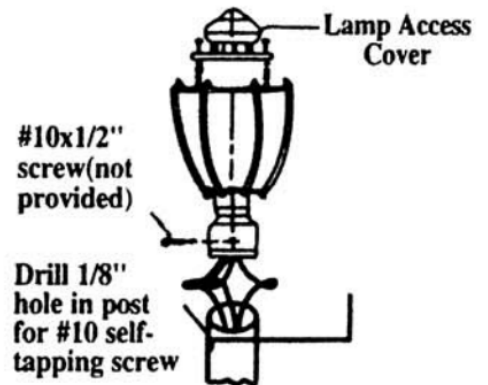

FIG.7
4. Secure fixture to post with # 10x1/2" self-tapping screw.(not provided)(FIG.7)